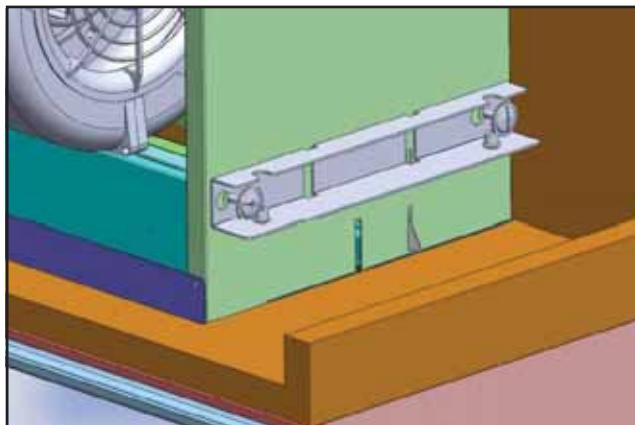

Fig.5
- 4) **24" Models Only.** Secure upper brackets to left and right sides of hood body by using (2) 3/16 x 3/8" screws for each bracket. Fig.5. Make sure the (2) captive nut screws holes on the bracket are facing downward.